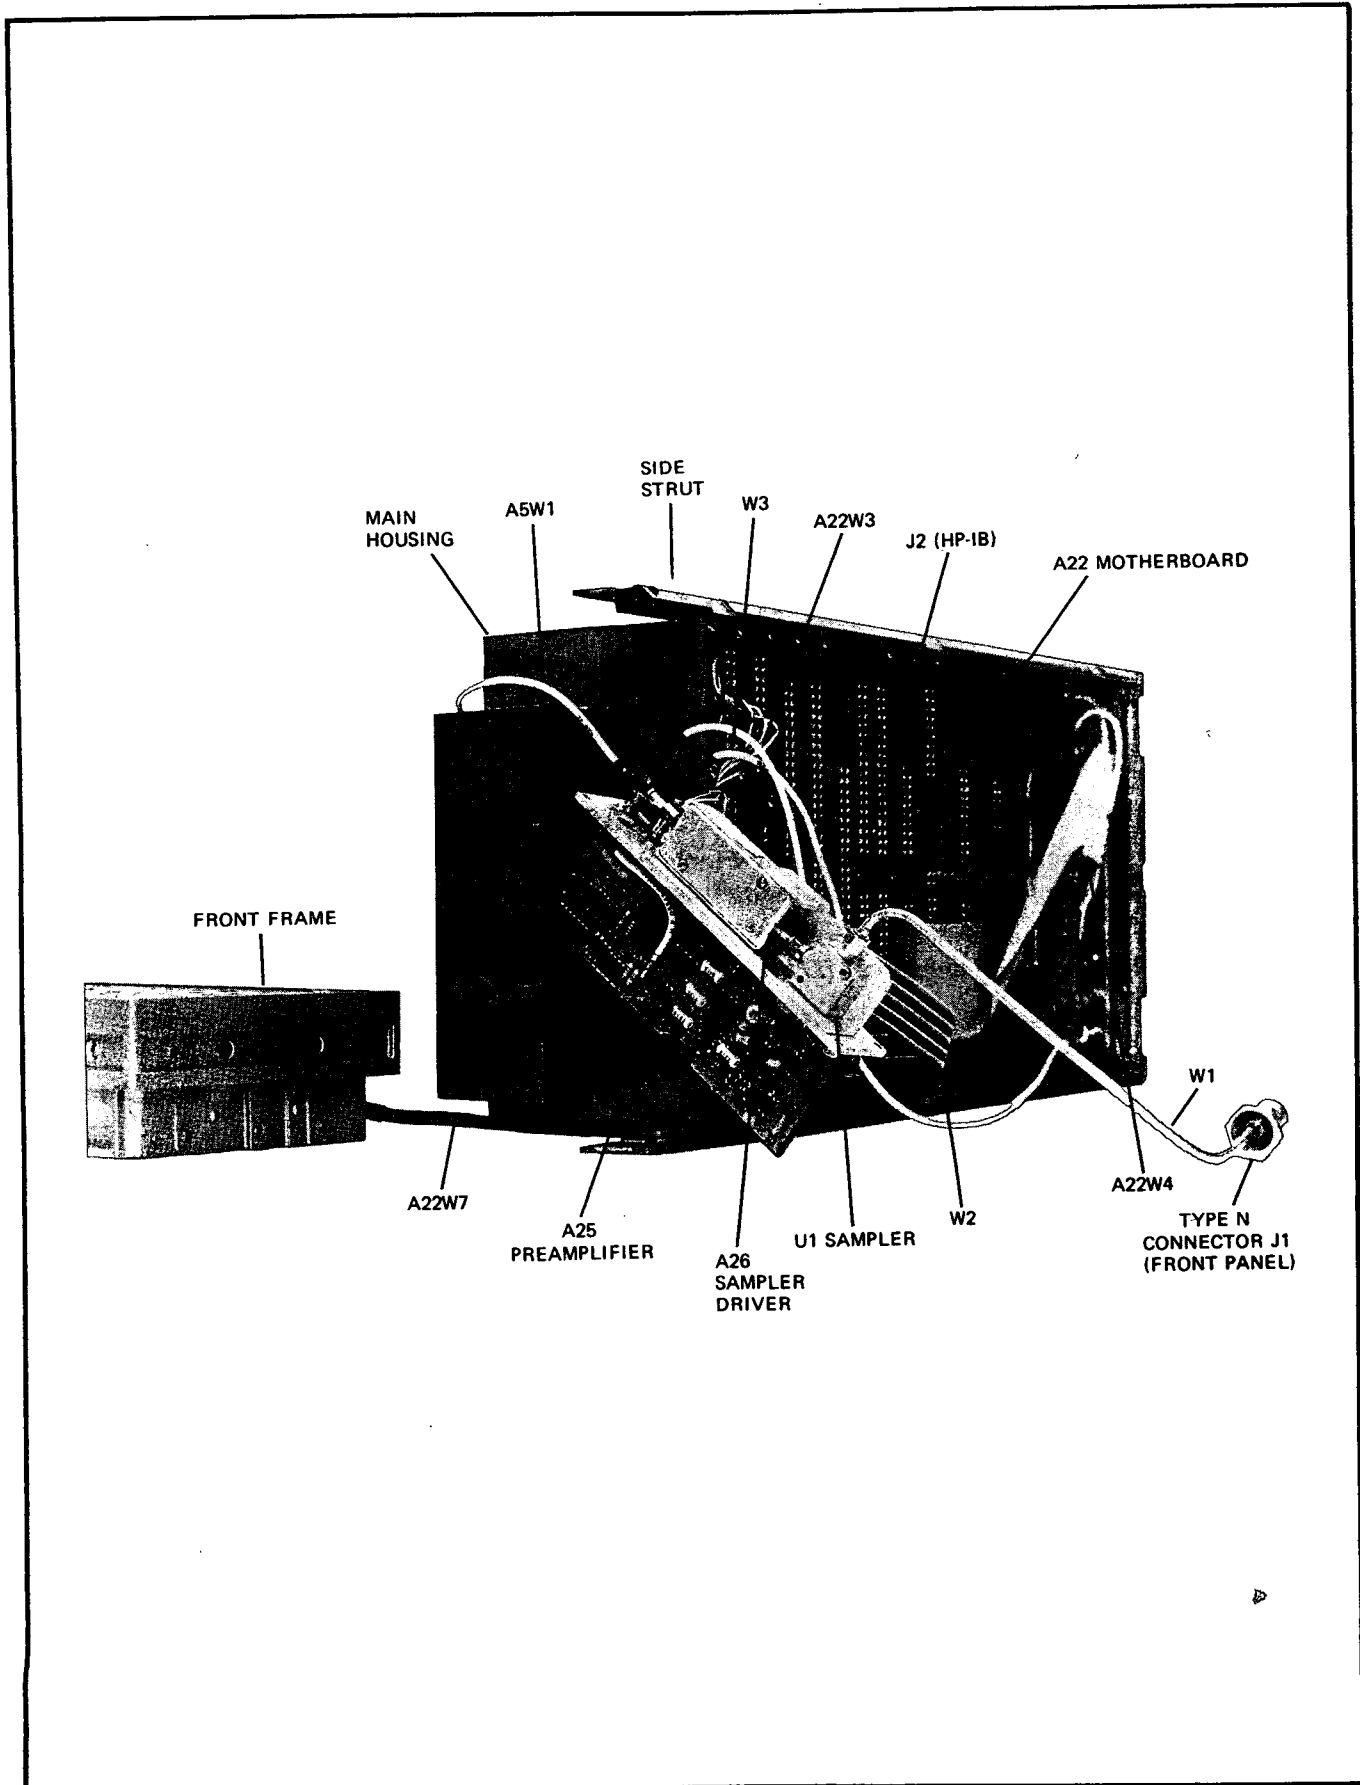

Figure 8-2. Front Frame, A25, A26, and U1 Removal
- f. The front panel frame (containing assemblies A1 and A2) can now be moved freely within limits of the power cable, as shown in *Figure 8-2*.